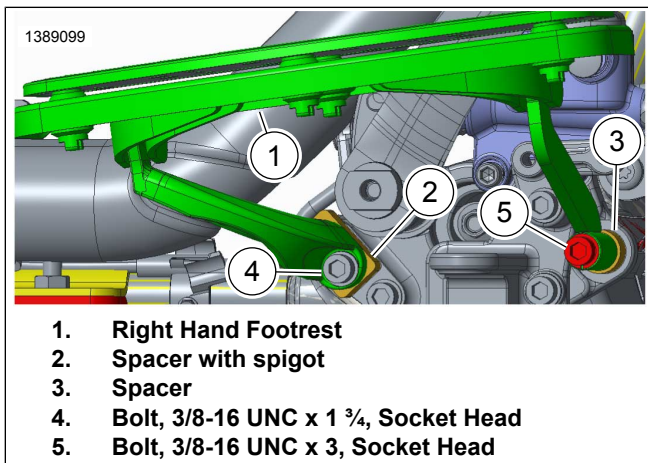

Figure 2-23. Right Hand Foot Rest
1. See Figure 2-23. If attached, remove Right Hand Footrest.